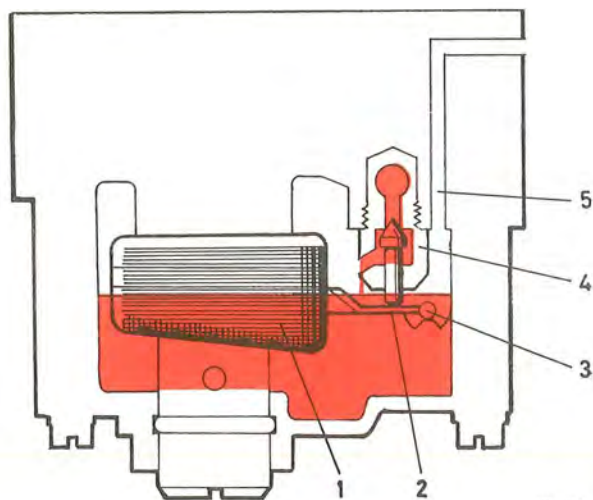

Fig. 2-52. Float system
Fuel flows into the floatchamber via the float valve (4, Fig. 2-52). The float (1), which is made up of twin expanded rubber floats, is carried on a bridge on the lower side of the carburettor housing. As the fuel level rises, the float lifts and, by means of the float arm (2) and tag, closes the needle on its seating when the correct level has been attained.